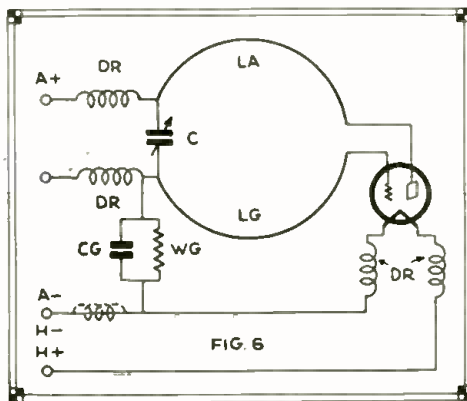

Fig. 6—Vacuum tube receiver circuit adapted to tune in waves as low as 1.7 meters.
1. Gutton and Touly (Fig. 1). The hook-up shows a variant of the familiar three-point hook-up (Hartley series feed). With normal means it oscillates down to 2 meters, with very good construction, as a receiving detector, even down to 1.7 m. (An example of this design is shown in Fig. 6.)